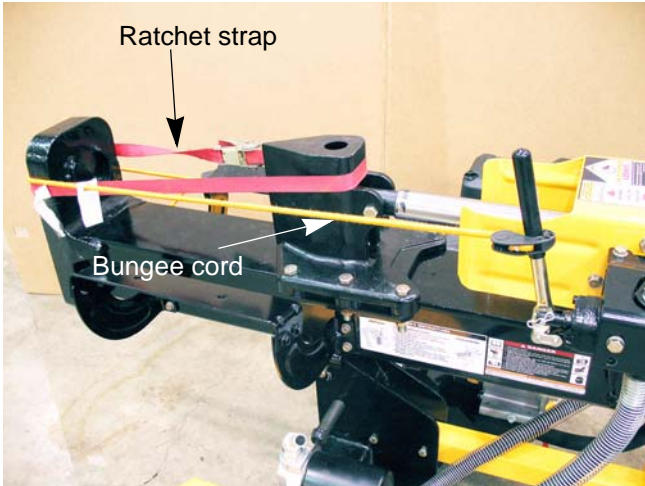

Figure 5.9
9. Wrap a ratchet strap around the wedge and the base plate. See Figure 5.9.
- NOTE:** A bungee cord can be used to hold the control valve in the extend position. See Figure 5.9.